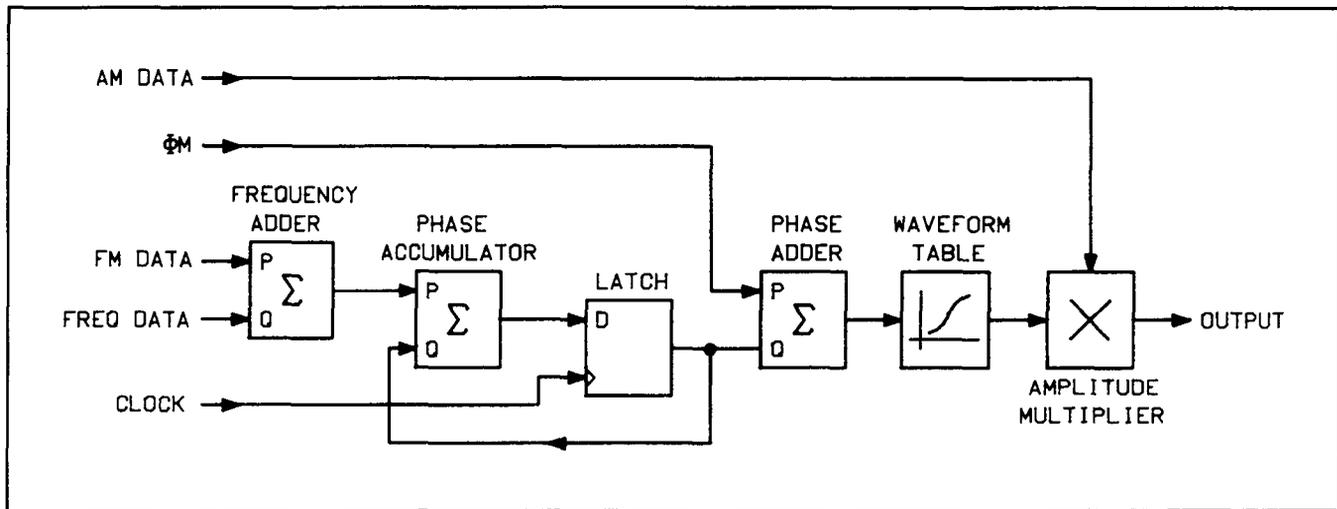

Figure 8-2. Simplified Diagram of One Channel of the DWSIC
Figure 8-2 shows a one-channel portion of the DWSIC. The diagram is highly simplified but detailed enough to illustrate general concepts such as
In many ways the figure resembles an analog function generator, and it may be helpful at times to visualize DWSIC operation using this analogy. (For example, the Waveform Table is analogous to an analog shaping circuit.) However, in the DWSIC all signal lines carry signal information as binary codes. Thus, the "waveforms" shown in the following figures are not really voltage-versus-time plots but are coded-value-versus-time plots. Conversion to an analog signal occurs at the output of the DWSIC and is not shown in Figure 8-2.
It should be noted in Figure 8-2 that each interconnect line in the diagram generally represents a data bus several bits wide.
Look first at the Phase Accumulator and Latch in Figure 8-2. The Phase Accumulator is a binary adder—its output is the sum $P+Q$. The output of the Phase Accumulator is the data (D) input of the Latch. This input is clocked through the latch once each period of the Clock input. The output of the latch feeds back to the Q input of the Phase Accumulator.